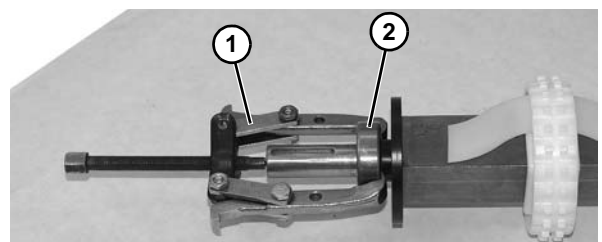

Figure 70
12. Using puller (**Figure 70, item 1**), as shown, remove bearing (**Figure 70, item 2**) from shaft assembly. Repeat on opposite side, if needed.